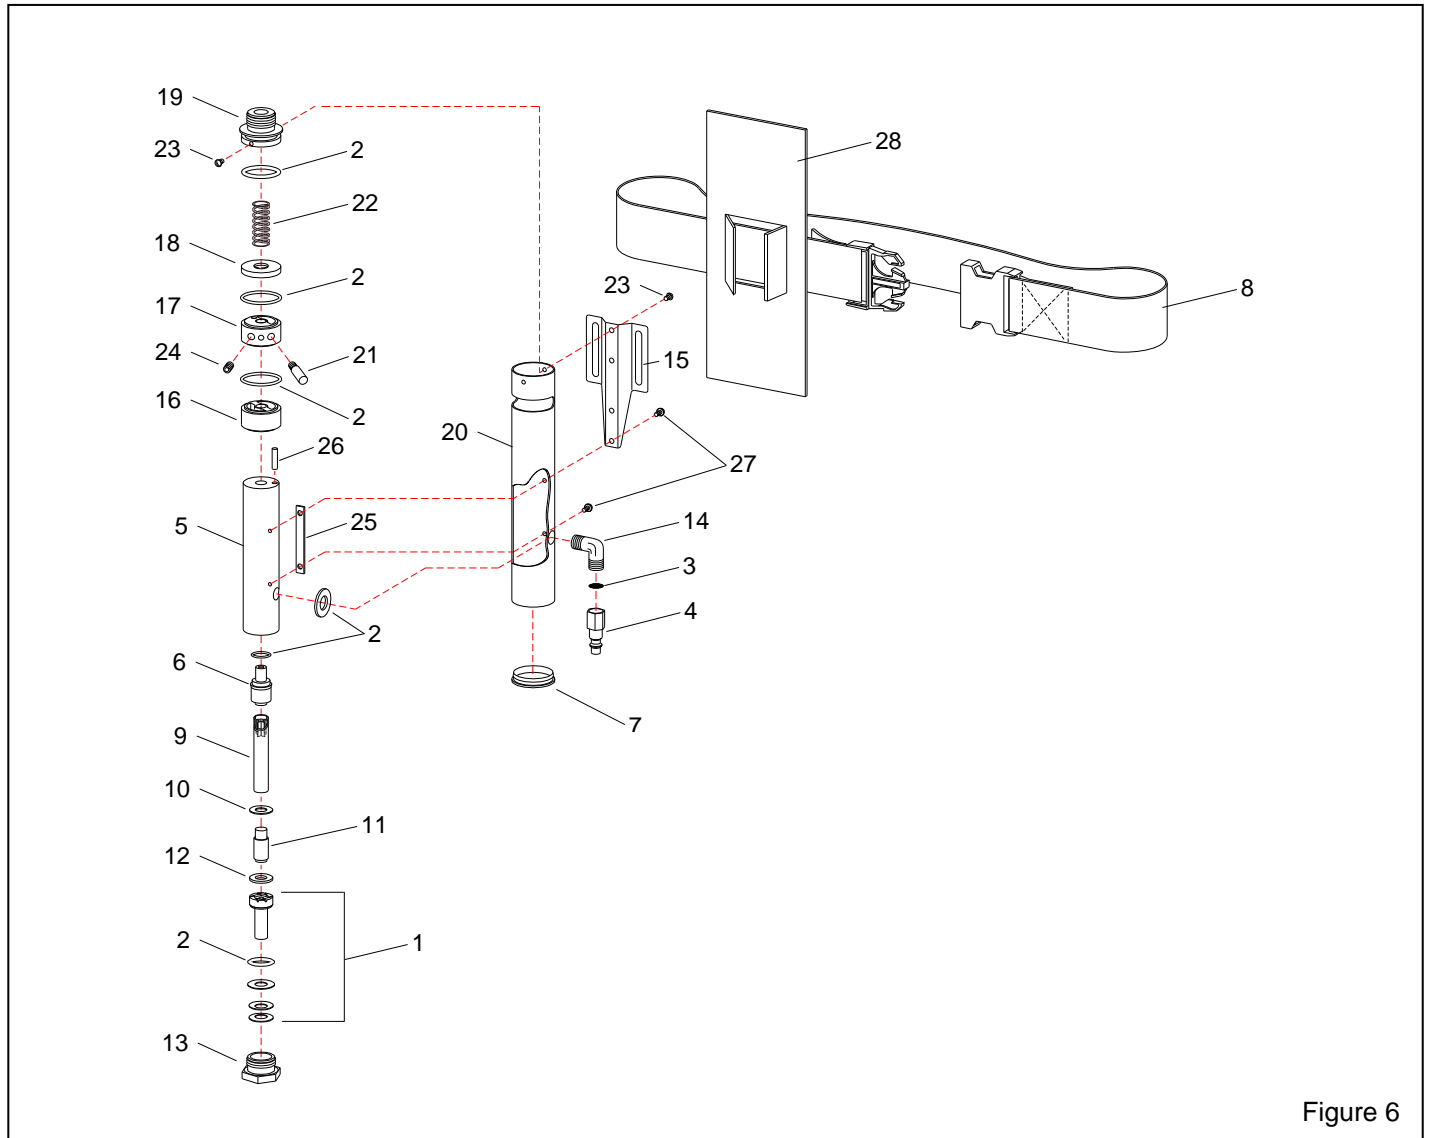

Figure 6
7.0 REPLACEMENT PARTS, Figure 6